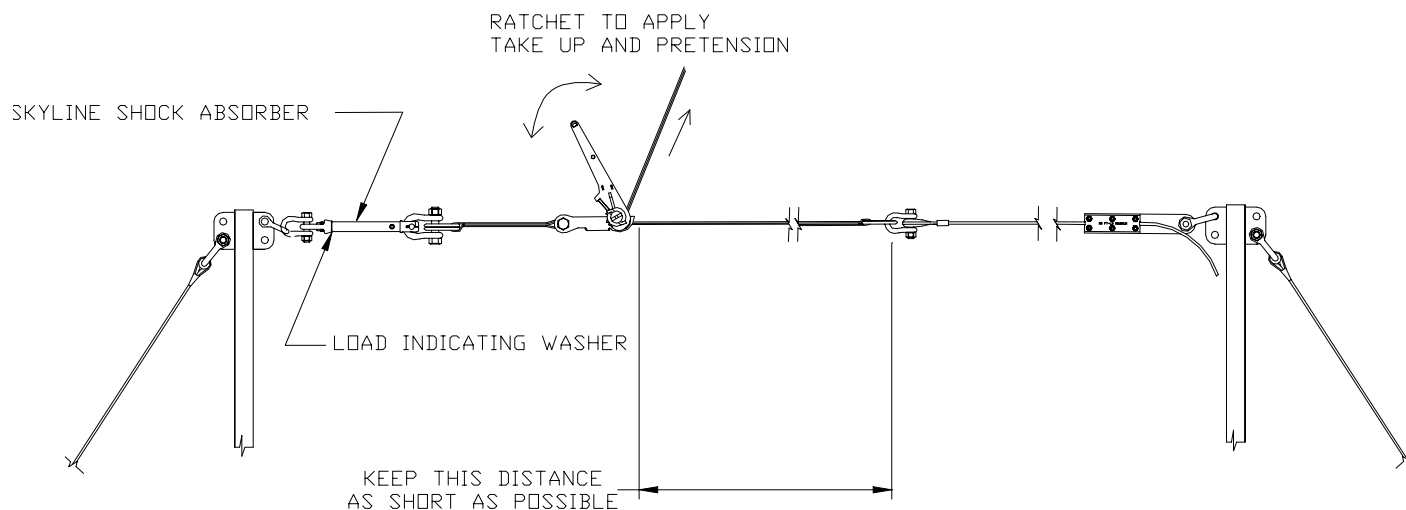

Figure 7
23. Tighten the ratchet load binder until the line tension just releases the load-indicating washer of the shock absorber to spin free. This washer is located just under the eye of the shock absorber (see Figure 7). A freely spinning washer indicates that the cable has been pre-tensioned to 1000 lbf.